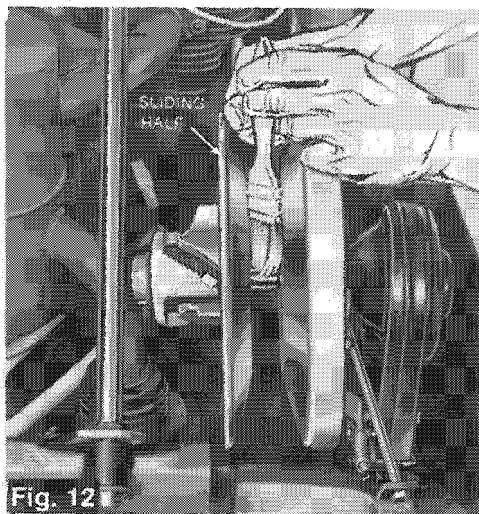

Fig. 12
2. Apply light coating of low-temp grease on the shaft. Activate the sliding half several times to distribute grease over full length of shaft. (See Fig. 12). Be careful that grease does not get into inner halves of the pulley.